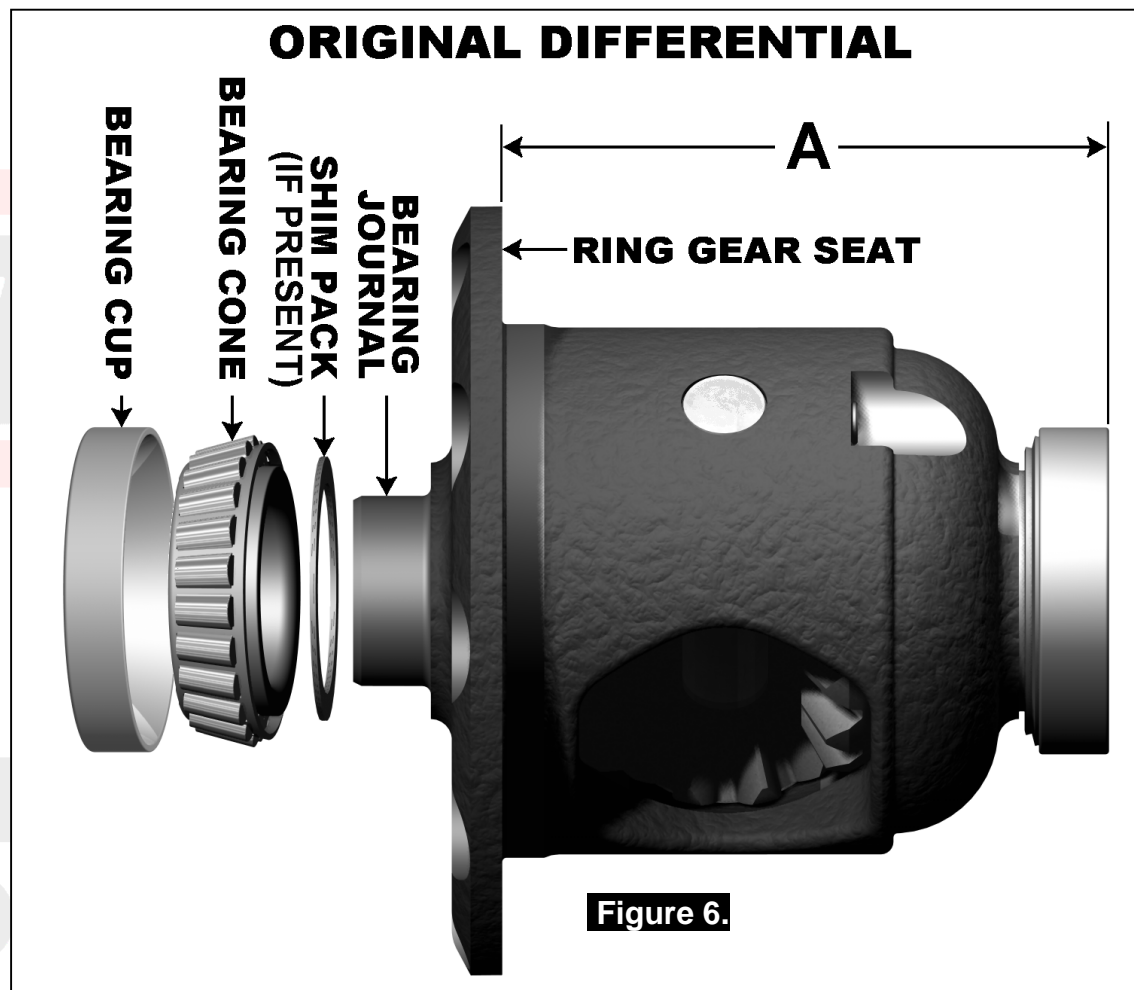

Figure 6.
- Using a caliper or similarly accurate measurement method (i.e., able to take accurate measurements within 0.04mm [0.0015"]), measure the distance from the shoulder of the outer face of the bearing cup to the ring gear mounting face (shown as 'A' in Figure 6.) and record this measurement as 'A'.